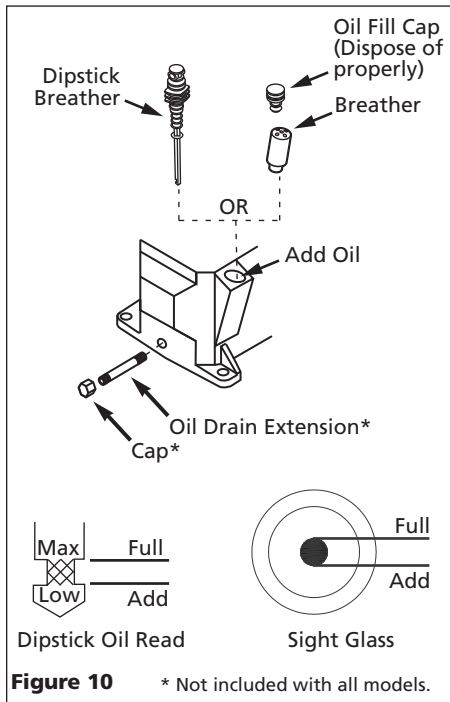

Figure 10 * Not included with all models.
1. Remove cap from oil fill opening. Fill pump to the proper oil level (see Figure 10). Install breather (found in parts bag with this manual or hanging from cylinder).